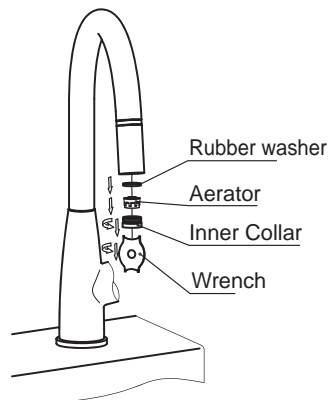
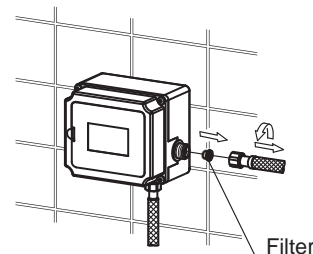

Fig.1
Fig.2
If low water flow after certain time of usage, may be because aerator blocked. Cleaning as Fig.1: Turn off handle, disassemble inner collar with wrench, remove and clean aerator and rubber washer, then reinstall. If still low water flow, may be because filter of control box blocked. Cleaning as Fig.2: Turn off handle, disassemble hose connector of inlet of control box, remove and clean filter, then reinstall.
- ① Suspension of water or handle is turned off: keep water source or turn on handle.
- ② Aerator or filter blocked: please clean as Fig.1 of "Maintenance".